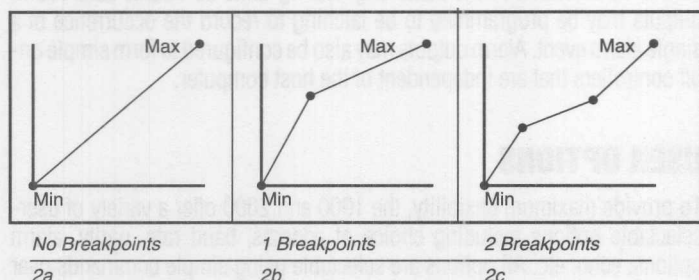

Figure 2. Piece-Wise Linear Technique.
The 2000 uses a piece-wise linear technique to approximate nonlinear functions. Figure 2 shows this technique. The first step in programming a function is to establish the functions endpoints, as shown in Figure 2a. This is accomplished by using the Minimum (MN) and Maximum (MX) commands. In cases where only linear scaling is necessary, the programming task is now complete. For nonlinear functions, the linear curve may be broken into segments by describing a breakpoint using the BreakPoint (BP) command. The breakpoint establishes an intersection between two linear segments. Figures 2b & 2c show the effect of breakpoints.